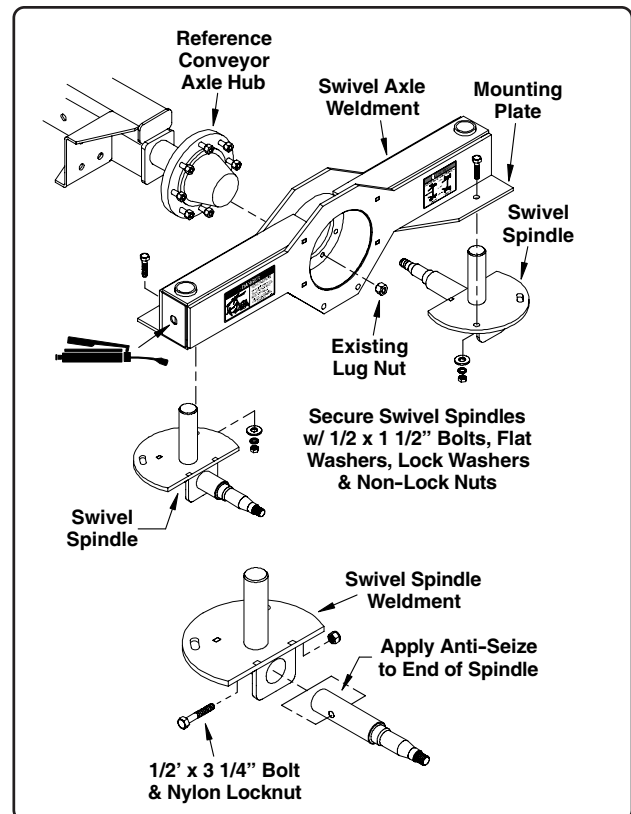

Fig. 1
2. Mount the swivel axle weldment onto the existing hub of the conveyor axle as shown in Fig. 1. Secure the axle weldment to the conveyor hub using the lug nuts retained earlier.
3. Locate the two right-hand and the two left-hand swivel spindle weldments and the spindles from the kit. Apply a light coat of anti-seize compound to the end of the spindles and install a spindle into each of the swivel weldments. Secure using 1/2" x 3 1/4" bolts and nylon locknuts (See Fig. 1).